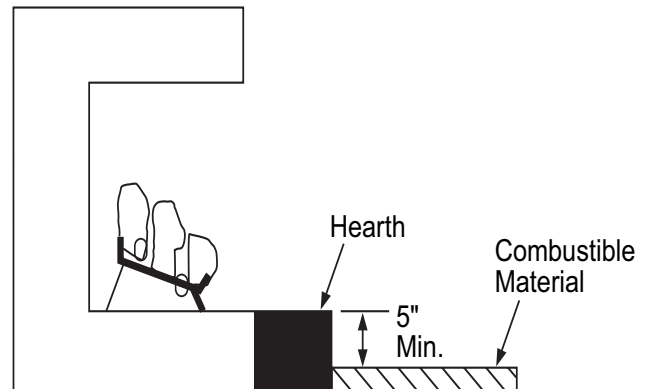

Figure 7 - Minimum Fireplace Clearances Above Combustible Flooring
- B. If combustible materials are less than 14" to the fireplace, you must install appliance at least 5" above the combustible flooring (see Figure 7).